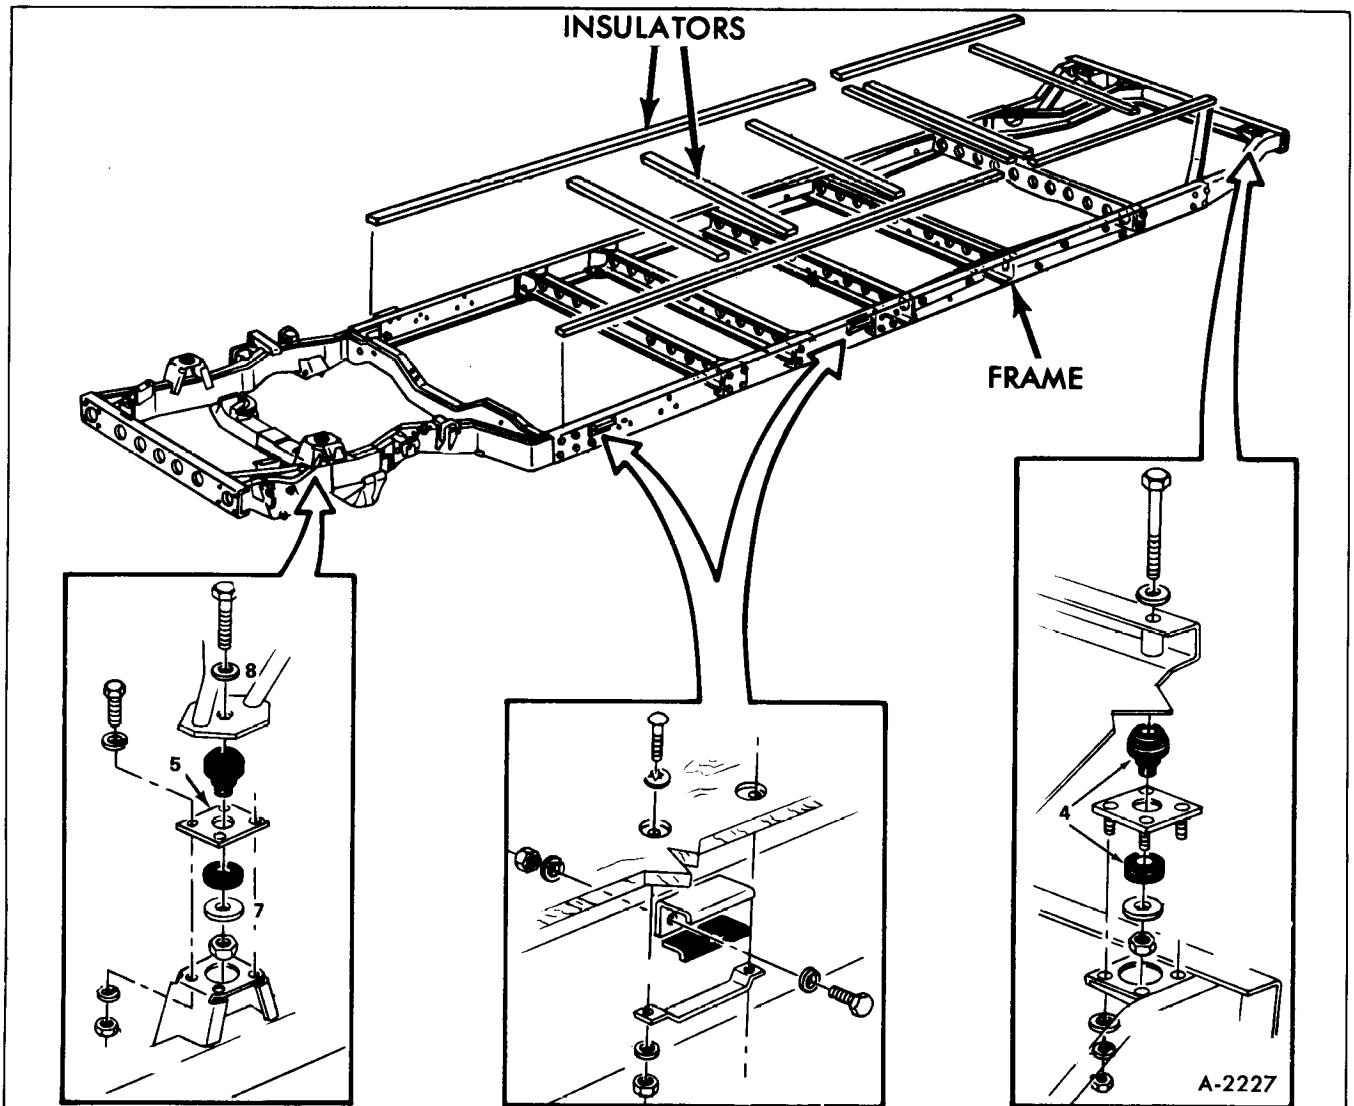

Figure 4-Body Mountings
5. Remove the bolt in each rear mounting pad. Location of mounts are shown in Figure 4.
Should it become necessary to replace any body mounting components, refer to figure 4. Front and rear body mount nut torque is 50 - 60 foot-pounds.
If any of the insulators between the frame and body must be replaced, be sure the old insulator is entirely removed. Then using a waterproof adhesive attach new insulator to frame in locations shown in Figure 4.